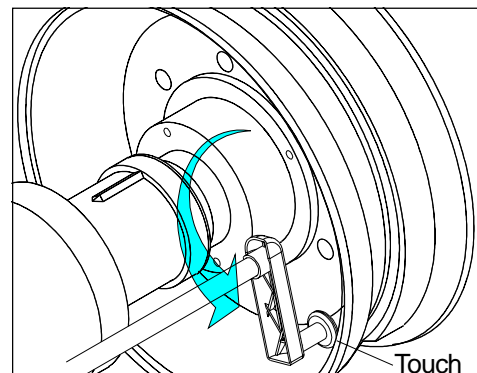

Figure 23
12. Rotate touch and hold the tip of SAPE arm to the lower inside edge of the rim and then press *Enter*. See *Figure 23*. The display will read live values, Press *Enter*.